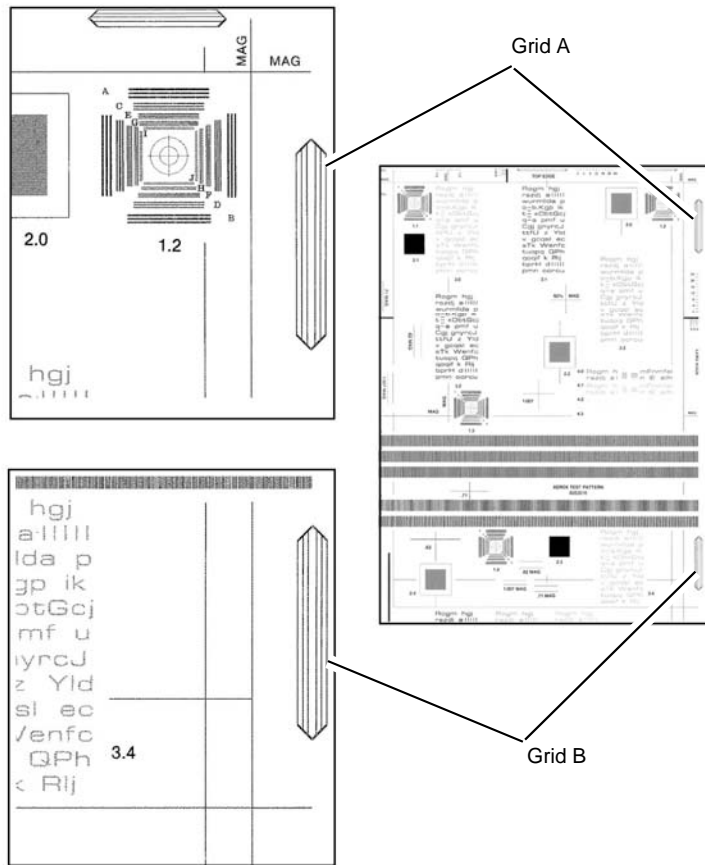

Figure 1 Test pattern
3. Use the grids A and B on the copy, Figure 1, measure the lead edge displacement. Check that the lead edge registration error is within +/- 1.6 mm (0.063 inch). The displacement measured at A and B should be equal.